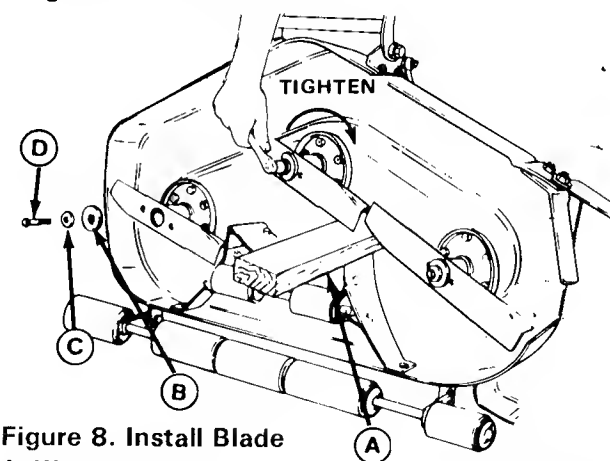

Figure 8. Install Blade
6. Reinstall each blade with the tabs pointing up toward deck and secure with a capscREW, cup washer, and spline washer. Be sure spline washer hub fits inside blade mounting hole. Use a wooden block to prevent blade rotation (figure 8) and torque capscREWS from 45 to 55 ft. lbs. (61 to 74.6 N.m).